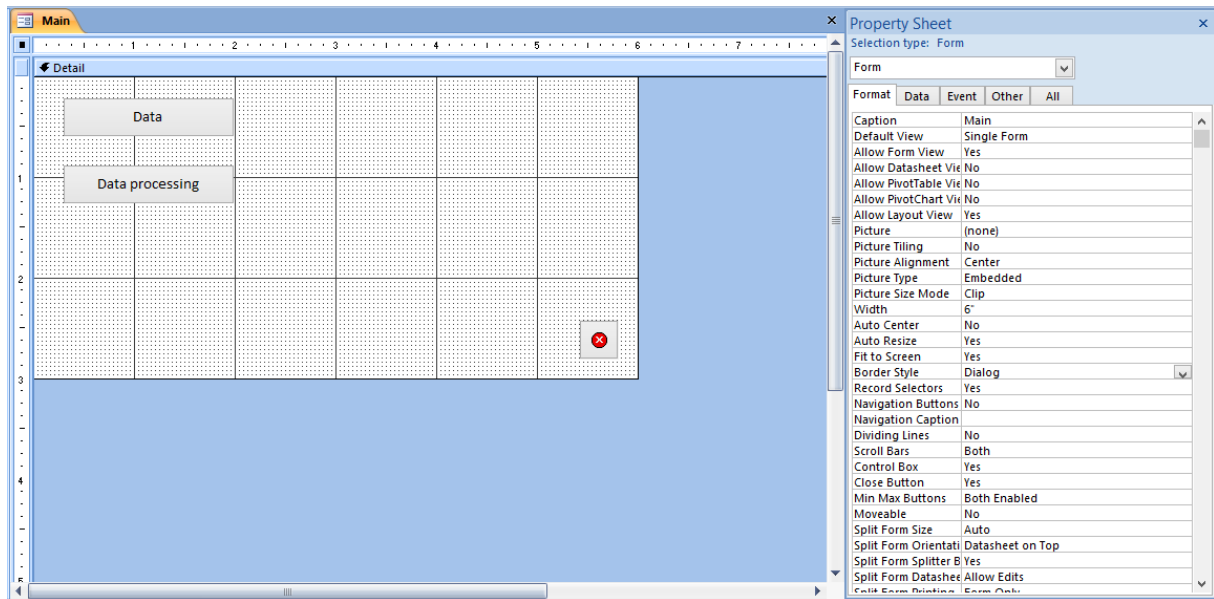

Figure 7.3
- 5) Save the form using the name “Main” (figure 7.3);